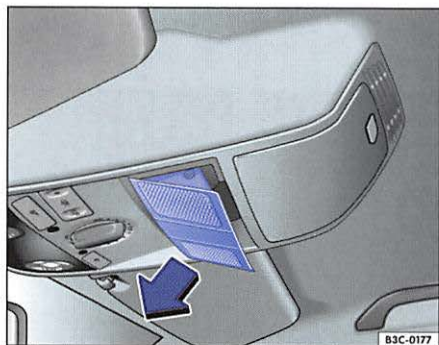

Fig. 30 In the headliner: removing cover
- Remove the cover from the front edge in the direction of the arrow ⇒fig. 30.